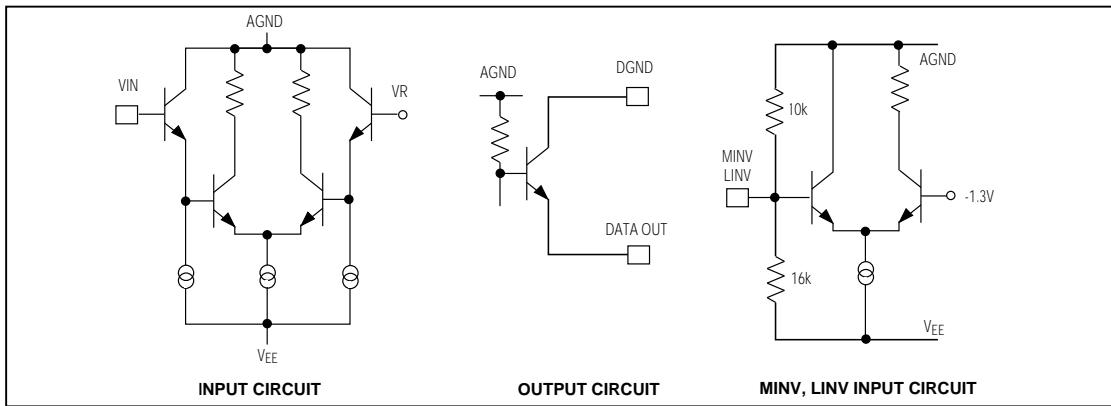

Figure 4. Subcircuit Schematics
There are two analog input pins that are tied to the same point internally. Either one may be used as an analog input sense and the other for input force. This is convenient for testing the source signal to see if there is sufficient drive capability. The pins can also be tied together and driven by the same source. The MAX1114 is superior to similar devices due to a preamplifier stage before the comparators (Figure 4). This makes the device easier to drive because it has constant capacitance and induces less slew-rate distortion. An optional input buffer may be used.
These are ECL-compatible digital controls for changing the output code from straight binary to two's complement, etc. (Table 1 and Figure 4). Both MINV and LINV are in the logic low (0) state when they are left open. The high state can be obtained by tying to AGND through a diode or $3.9k\Omega$ resistor.